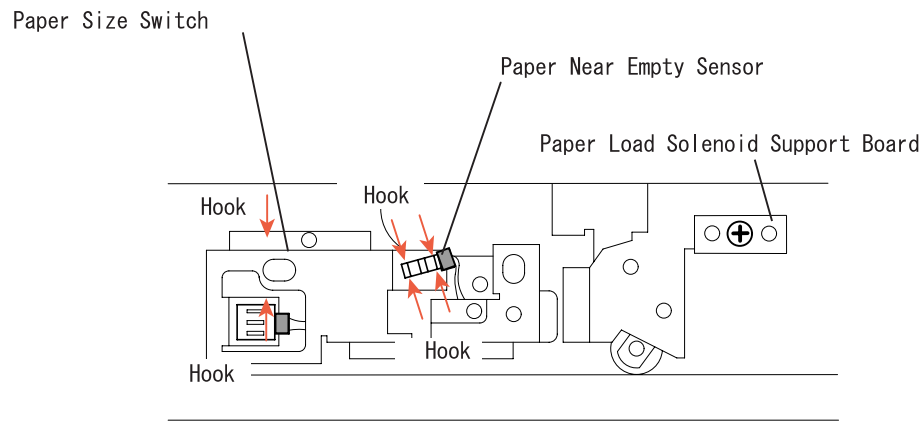

Figure 4-38.
5. Remove 1 screw securing the support plate and remove the Paper Load Solenoid. (See Figure 4-38, "Paper Size Switch / Paper Near Empty Sensor Removal")